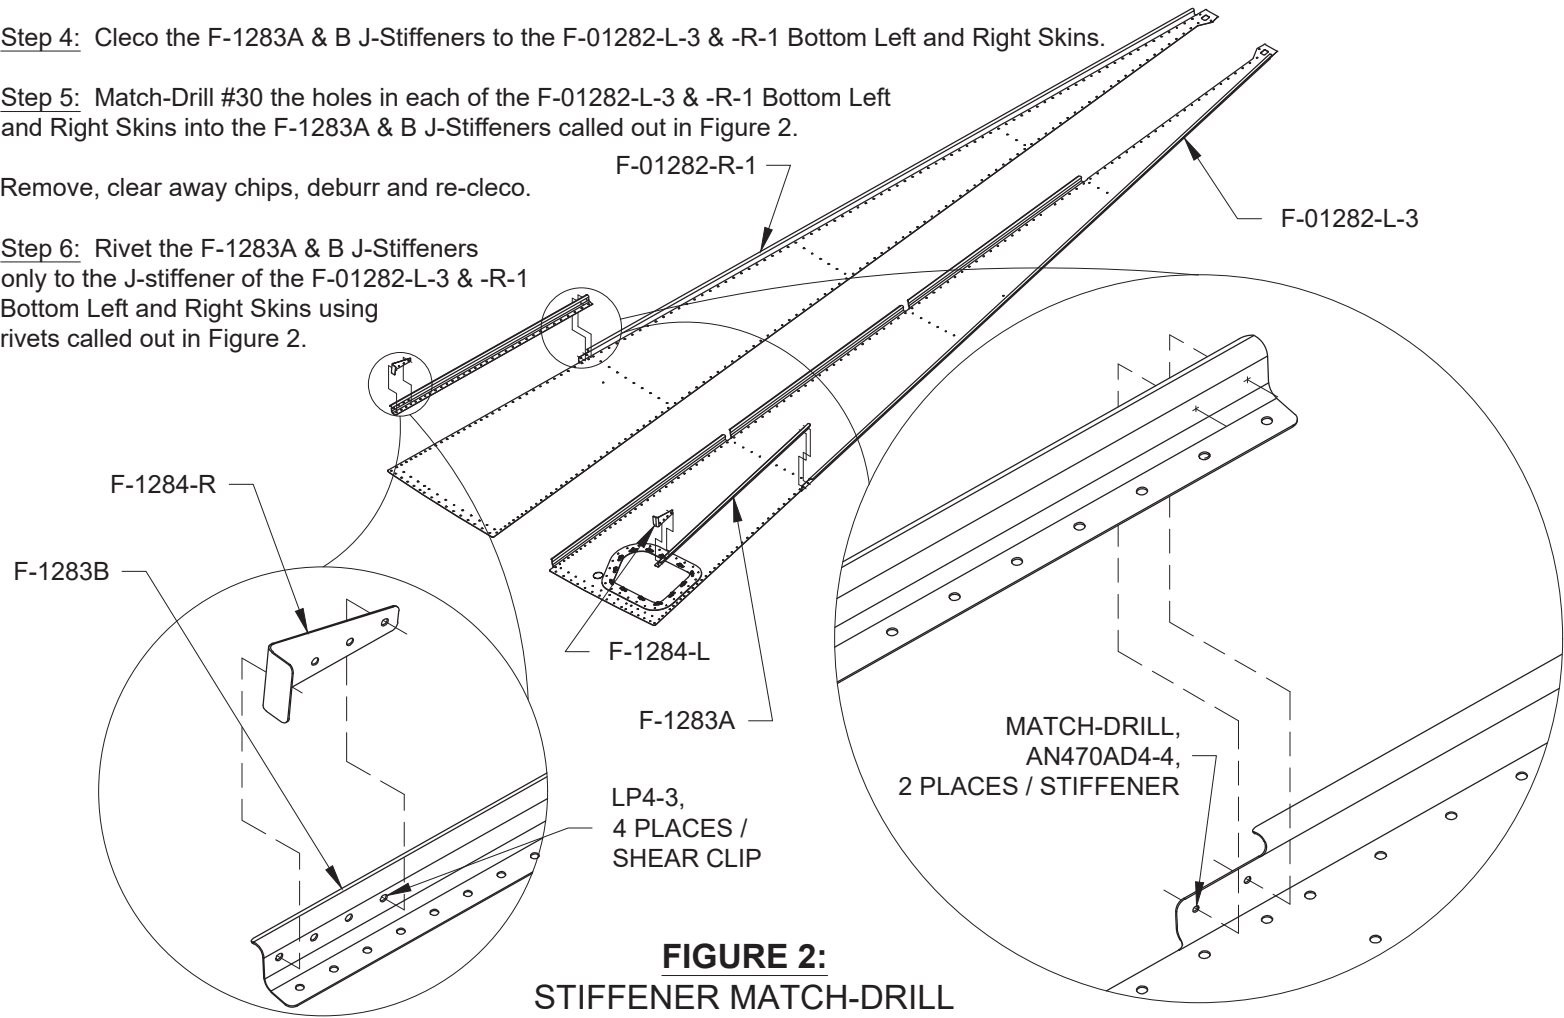

FIGURE 2:
Step 3: Rivet the F-1284-L & -R Shear Clips to the F-1283A & B J-Stiffeners using rivets called out in Figure 2.
Step 5: Match-Drill #30 the holes in each of the F-01282-L-3 & -R-1 Bottom Left and Right Skins into the F-1283A & B J-Stiffeners called out in Figure 2.
Step 6: Rivet the F-1283A & B J-Stiffeners only to the J-stiffener of the F-01282-L-3 & -R-1 Bottom Left and Right Skins using rivets called out in Figure 2.